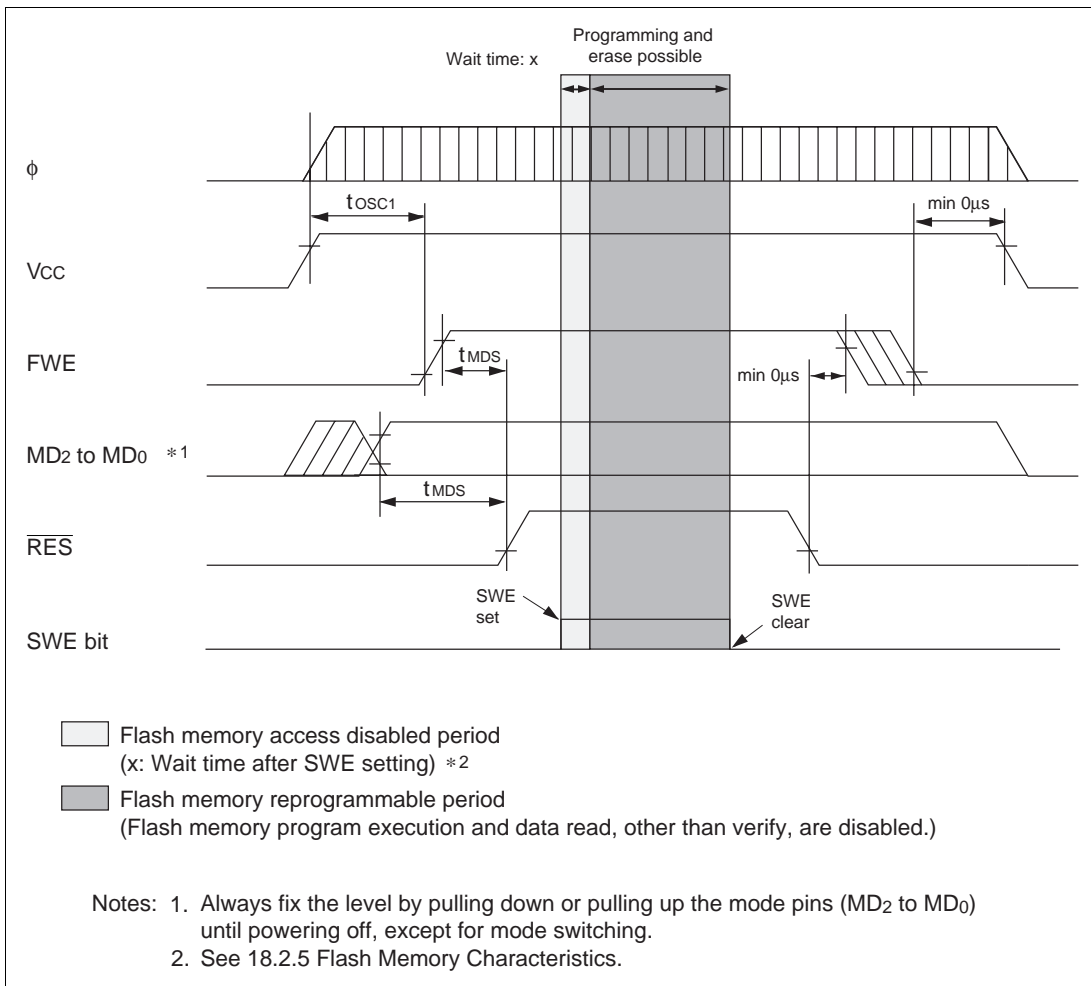

Figure 15-25 Powering On/Off Timing (Boot Mode)
(2) Notes on powering on/powering off (See figures 15-25 to 15-27.)
(3) Notes on FWE pin High/Low switching (See figures 15-25 to 15-27.)